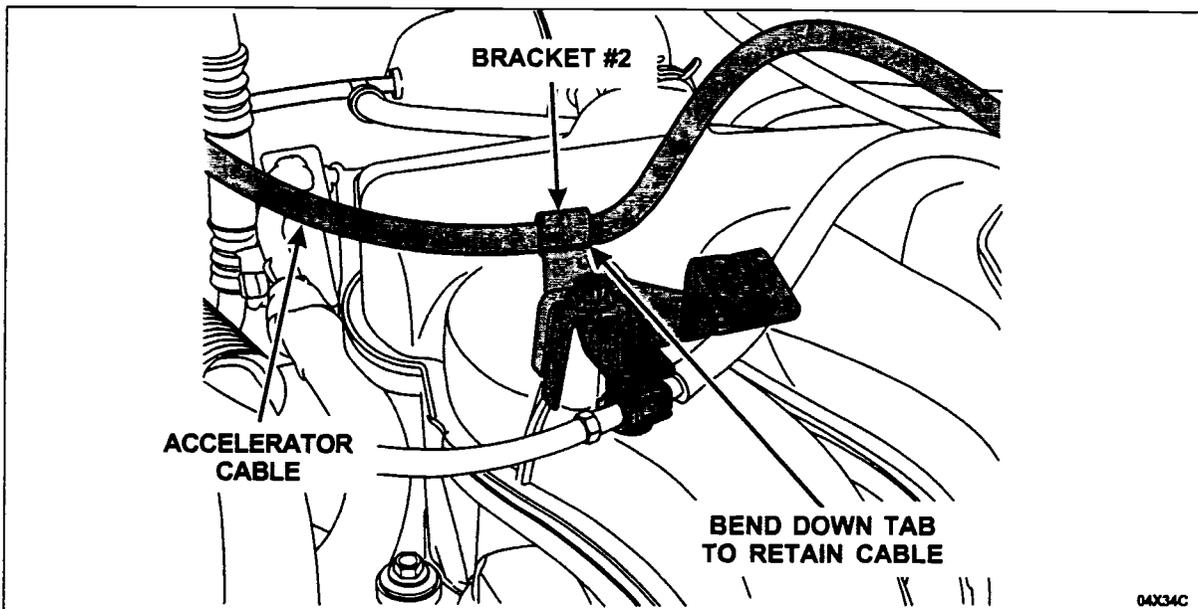

FIGURE 3
- D) Position the accelerator cable in bracket #2 and, using a suitable tool, bend down the tab to retain the cable while ensuring the cable moves freely in the bracket. See Figure 3.